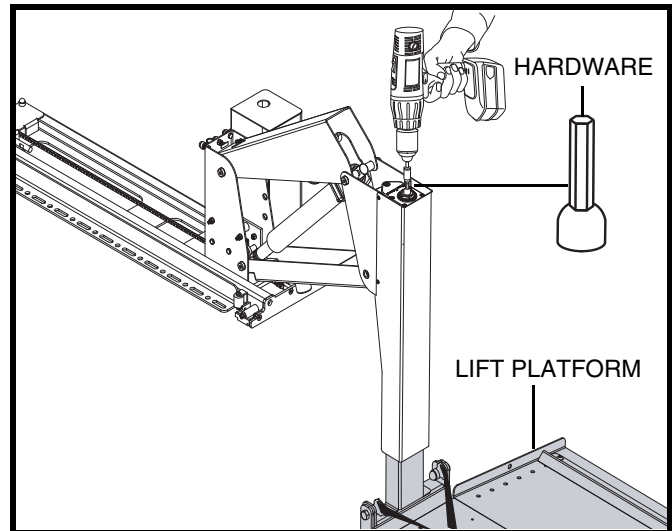
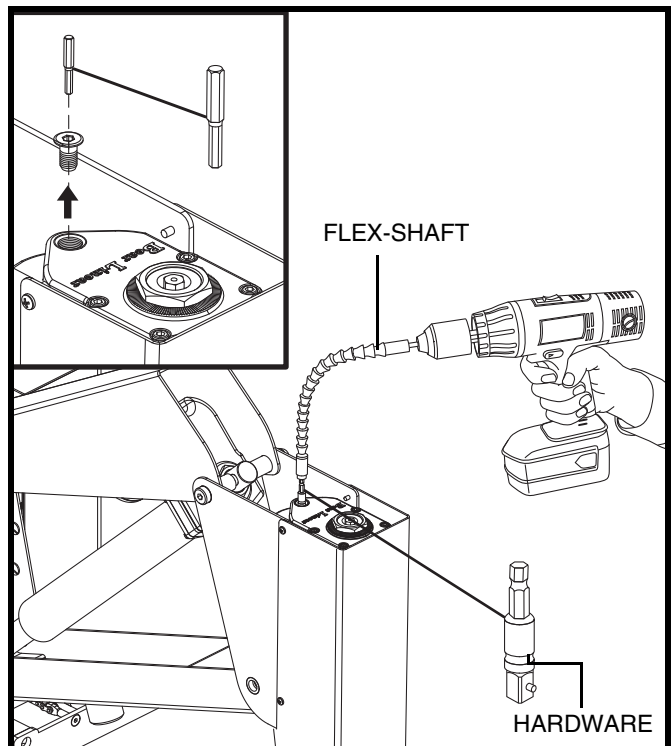

Figure 9. Raise Or Lower The Platform. DO NOT Use The Flex-Shaft For This Operation (Backpacker MV ONLY)
Figure 9A. Raise Or Lower The Platform (Remove Screw To Expose The Adjustment Opening) Backpacker MV ONLY
The Backpacker MV lift platform can be raised/lowered from two different adjustment points located at the top of the lift. The larger (front) adjustment opening (see figure 9) requires more energy but less revolutions to raise/lower the platform, while the smaller (rear) adjustment opening (see figure 9A) needs less energy but more revolutions.
PROHIBITED! DO NOT use the flex-shaft when manually raising or lowering the lift platform while using the method illustrated in figure 9. Attach the needed hardware directly to the drill.
1. Secure the appropriate end of the flex-shaft to a drill, and depending on which part of the lift you want to move, attach the appropriate hardware to the other end of the flex-shaft. See figures 9A, 10, and 11.